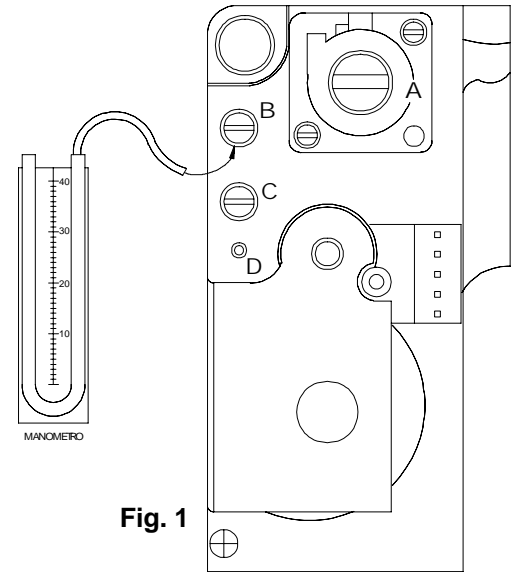

Fig. 1
- m. The manometer inserted in the pressure point **B** (fig. 1) will show the maximum gas pressure
- o. Remove the aluminium cap **A** (fig.1) and, with a screwdriver, turn the plastic screw;
- s. Remove the silicon pipe from the pressure point **B** (fig.1), close tightly the pressure point screw and make sure there are no gas leaks.
a. Insert a manometer into the gas valve pressure point **B** (fig.1);